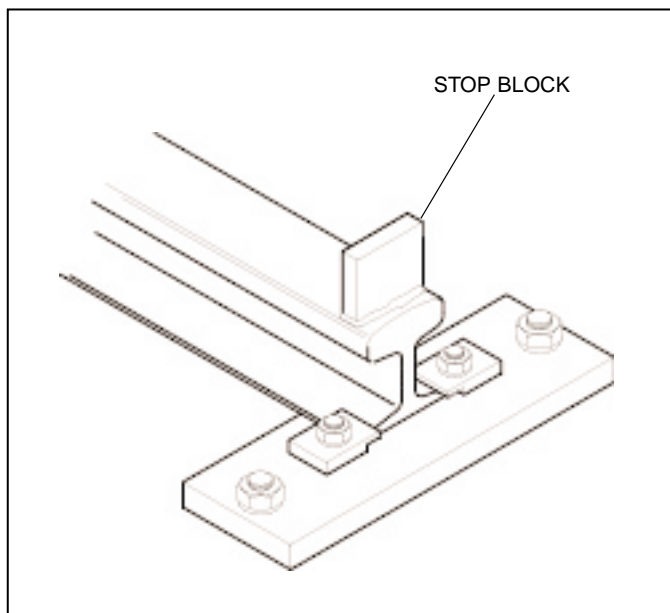
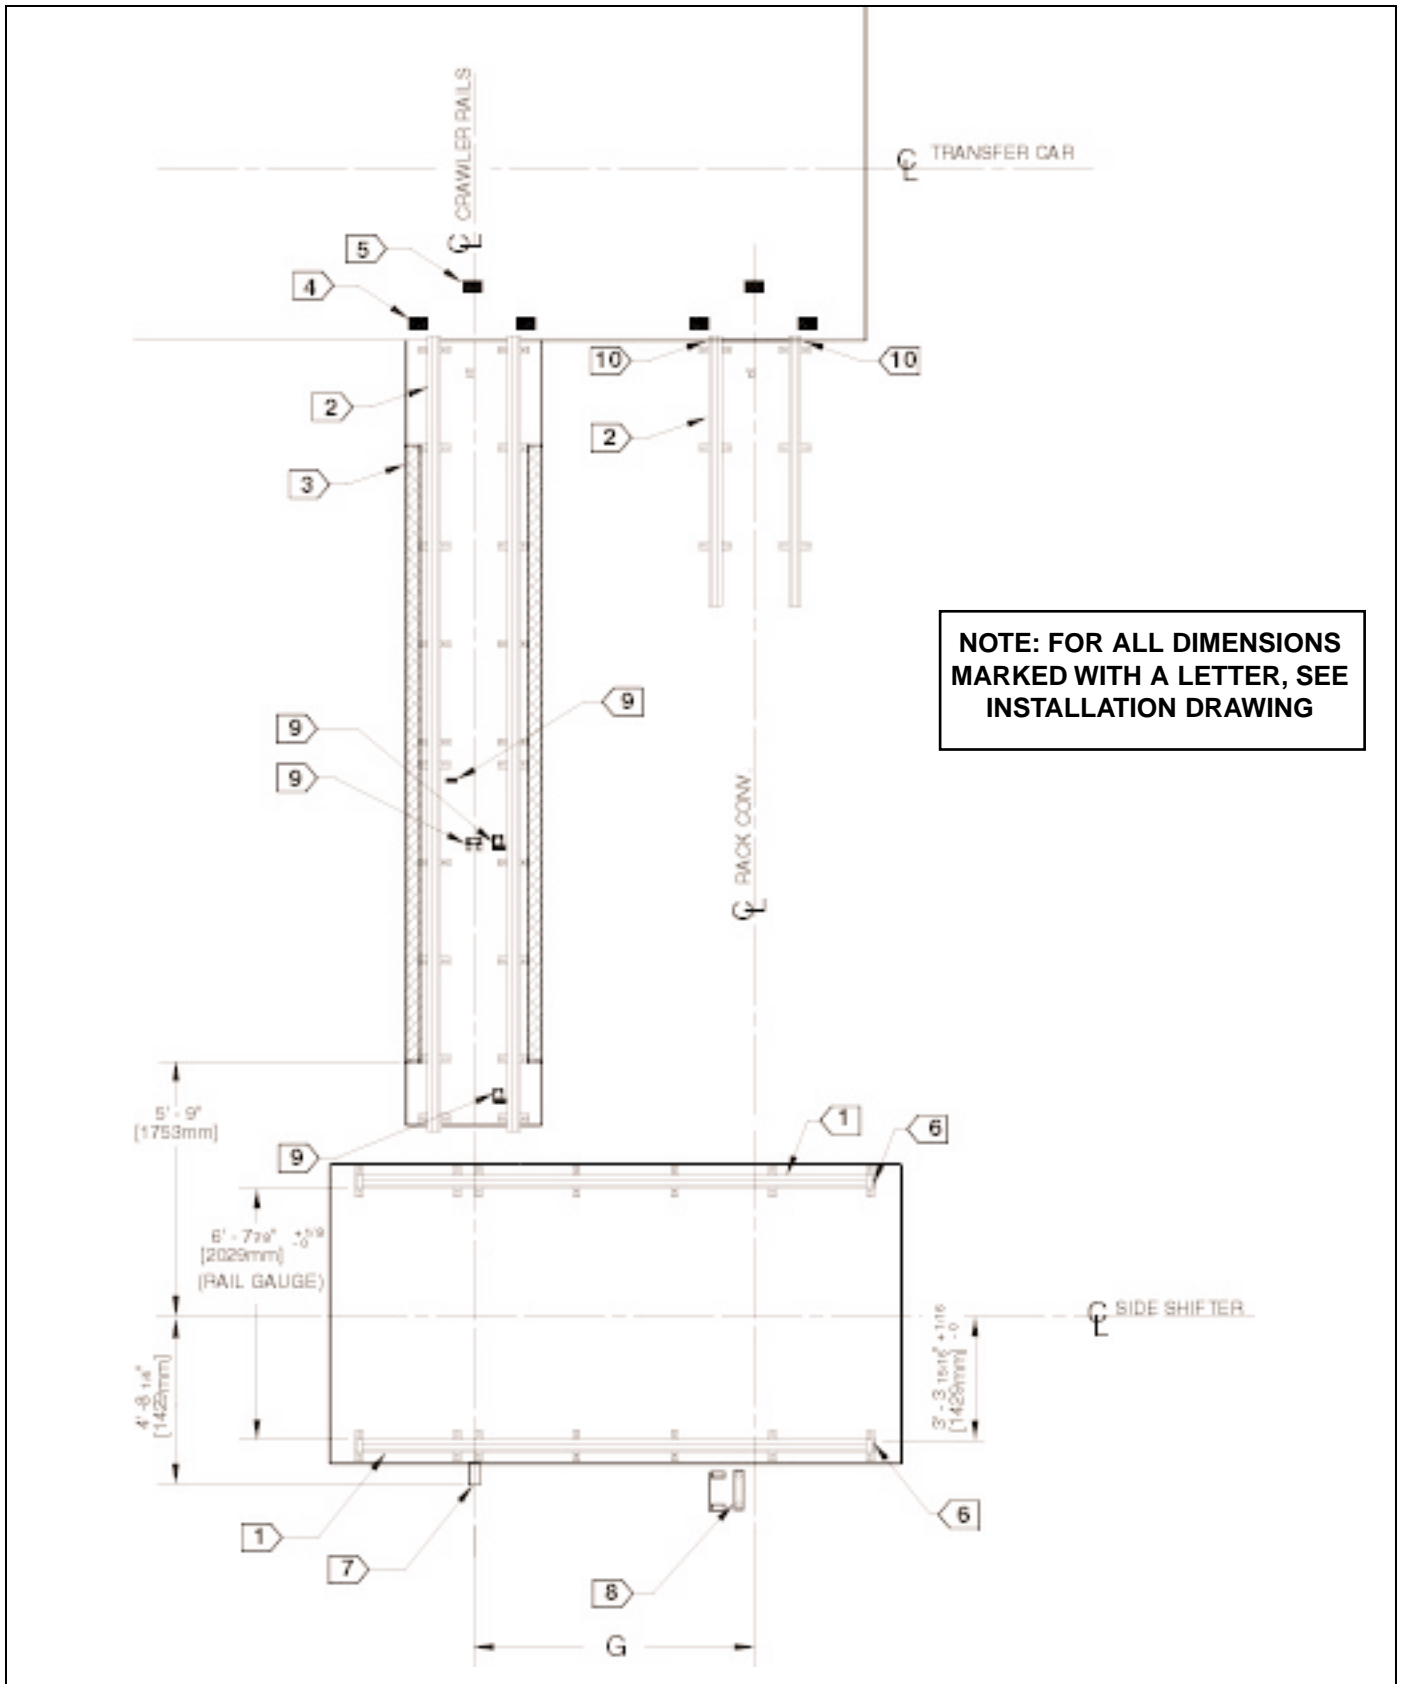
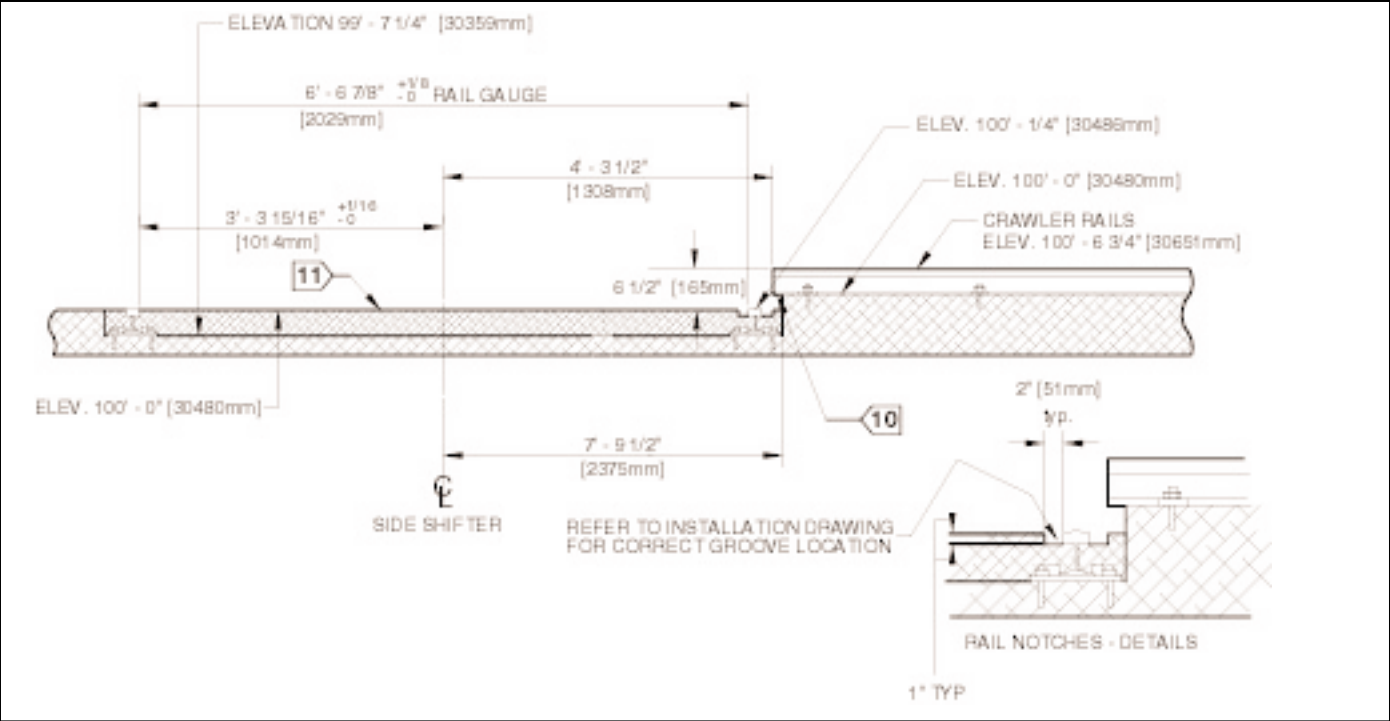

Figure 3.3 STOP BLOCK
Figure 3.6 SIDE SHIFTER AND CRAWLER RAIL INSTALLATION.
Figure 3.7 SIDE SHIFTER AND CRAWLER RAIL INSTALLATION.
3.1.3.1 Side shifter rails. Shim rails to an elevation of 100'-0-1/4" [30486mm]. Refer to item 1 in figure 3.6. Refer to your installation drawing for rail size.
3.1.3.2 Crawler rails. Shim to an elevation of 100' 6-3/4" [30651mm]. Refer to item 2 in figure 3.6. Refer to your installation drawing for rail size.
3.1.3.3 Crawler rail curbs. Curbs have an elevation of 100' 6-3/4" [30651mm]. Allow 9' 0" [2743mm] in curb length for each rack. Refer to item 3 in figure 3.6.
3.1.3.4 Car actuators. Secure car actuators with 1/2" X 3 3/4" L. anchor studs, 1/2" lockwashers and 1/2" hex nut. Shim actuators to top of transfer car rails, at an elevation of 100' 0 1/4" [30486mm]. Refer to item 4 in figure 3.6.
3.1.3.5 Stabilizers. Secure stabilizers with 1/2" X 3 3/4" anchor studs, 1/2" lockwashers and 1/2" hex nuts. With loaded crawler on car, shim stabilizers to within 0.030 of rollers on transfer car. Refer to item 3 in figure 3.6.
Weld stop blocks (figure 3.3)(4 required - 1" high X 2" wide X 3" long) [25.4mm X 51mm X 76mm]; one on each end of Side Shifter rails to prevent Side Shifter from leaving rails. Refer to item 6 in figure 3.6.
Locate support anti-tip on centerline of crawler rails to prevent side shifter from tipping when crawler enters. Shim support to within 0.015 to 0.020 of side shifter frame with empty crawler on it. Secure it with 3/4" X 4 3/4" anchor studs, 3/4" lockwashers and 3/4" hex nuts. See item 7 in figure 3.6.
Locate cable & hose carrier bracket and hose support bracket (refer to item 8 in figure 3.6). Secure with 3/8" X 2 3/4" L. [9.5mm X 70mm L.] anchor studs, 3/8" lockwasher and 3/8" hex. nut.
See switch and emitter installation drawing for complete mounting and parts required. The installation of these parts will take place after arrival of equipment, no floor preparation is required at this time. See item 9 in figure 3.6. Refer to installation drawing for dimensions.
Notch and shim crawler rails to match rails on Rackveyor front section as shown below (also see item 10 in figure 3.6). Then weld to front section.
After transfer car is in position, shim the leading ends of all crawler rails to match crawler rails on transfer car, within .030" [0.75mm], then tackweld shims to rails. Shim thickness may vary according to floor elevations. Refer to item 10 in figure 3.7 and items 8 in figure 3.6.
Note: Do not pour second layer of concrete until rail gauge and elevation has been reconfirmed subsequent to fully loaded trial run. See item 11 in figure 3.7.